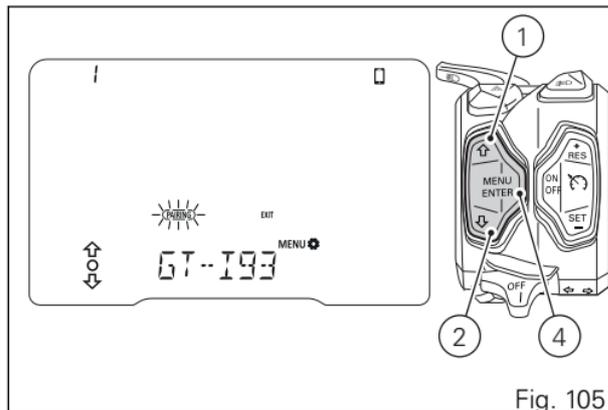

Fig. 105
The Pairing function is activated by pressing button (4) after selecting the PAIRING item (flashing frame) (Fig. 105): this runs a search for all Bluetooth devices present within a certain range.
After entering BLUETOOTH SETTING MENU (Fig. 105), use buttons (1) and (2) to select the device to be deleted from the list shown in the Menu. Once the device is selected, press button (4). The instrument panel displays “DELETE” within the Menu. Press again button (4) to confirm, or press button (2) for 2 seconds to cancel deletion of the device. If user confirms deletion of the device, the instrument panel will display “WAIT” within the Menu.